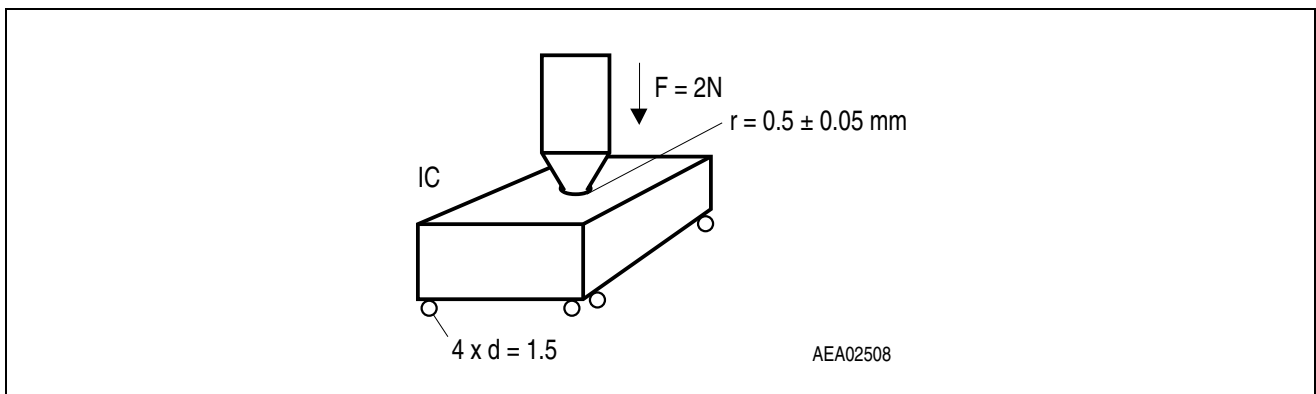

Figure 7 Setup for Piezo Measurements
6) For definition see Figure 7.